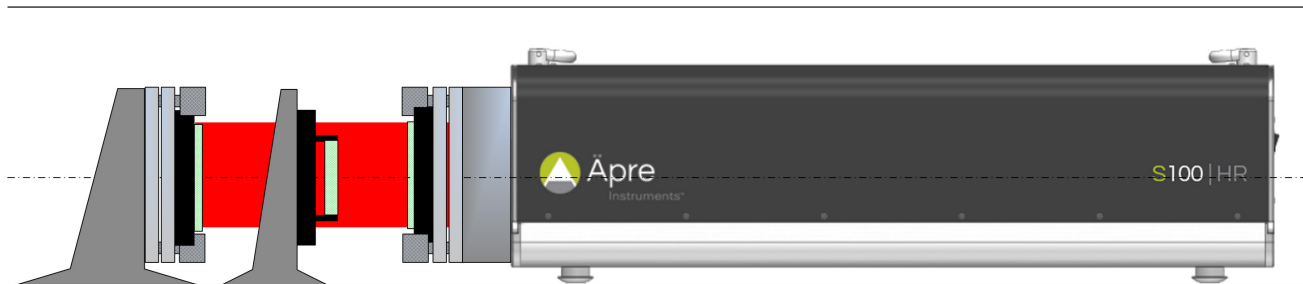

Figure 1: Setup for measuring transmitted wavefront
The setup for transmitted wavefront is similar to measuring a flat part. Refer to Figure 1 for the basic set up geometry. A flat cavity is setup and then the part to be tested inserted for testing. Therefore the setup begins with adjusting the transmission flat correctly. Please refer to application note "How to Align Transmission Flat/Sphere" for this procedure.
1. Mount the Reference Flat (far left optic in Figure 1) in the fixturing provided